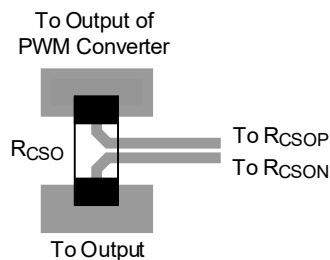

Figure 6. Kelvin Connections for the RcsO
- The paths of  $R_{CSOP}$  and  $R_{CSON}$  must be directly connected to the terminals of current-sense resistor ( $R_{CSO}$ ) using Kelvin connections as shown in the layout shown in Figure 6.